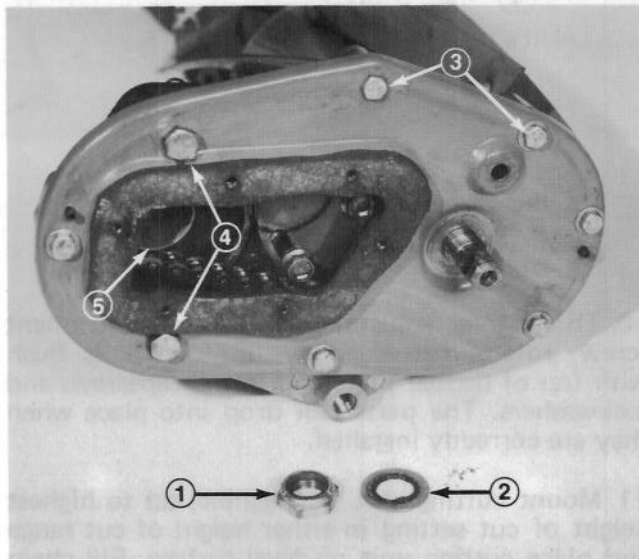

Figure 10
5. Remove shipping cover or hydraulic motor (Fig. 10). Disassemble locknut, and O-ring washers from reel shaft and remove chain case cover capscrews, motor mount bolts and cover, taking care not to distort chain case cover (Fig. 10).